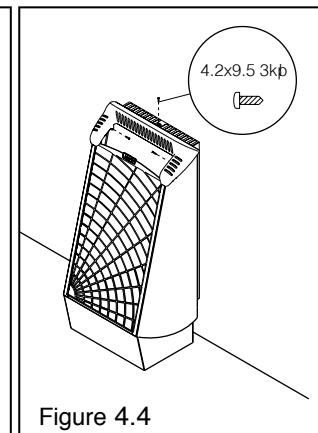

Figure 4.4
- Screw the two fastening screws ( $\varnothing$  4.2 x 9.5) into the upper frame and one screw into the fastening plate on the wall (see Figure 4.4).